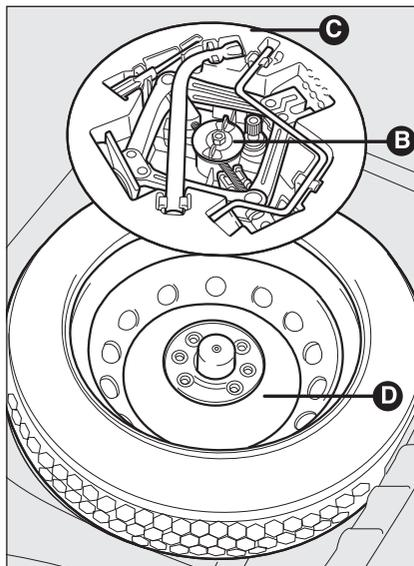

fig. 4
- loosen the clamping device **B**-fig. 4;